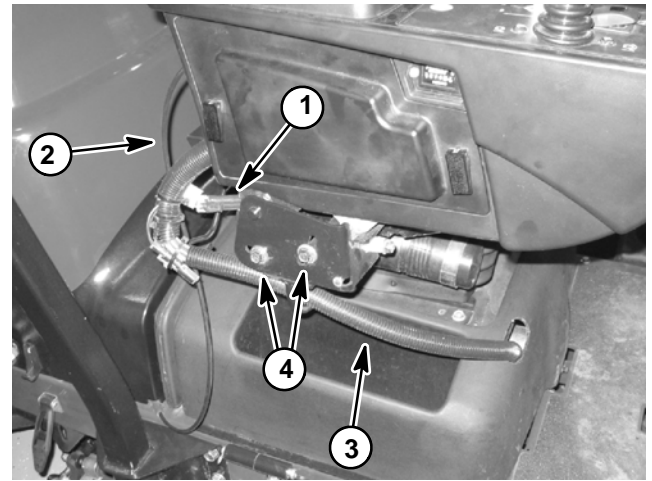

Figure 13
3. Disconnect seat switch electrical connector from wire harness (Fig. 13).
4. Remove two (2) flange head screws and flat washers that secure control arm assembly to seat base (Figs. 13 and 14).
3. Make sure that two (2) bushings are positioned in control arm. Carefully slide control arm assembly onto seat base post. Secure control arm assembly to seat base with two (2) flange head screws and flat washers (Figs. 13 and 14).
4. Connect seat switch electrical connector to wire harness (Fig. 13).